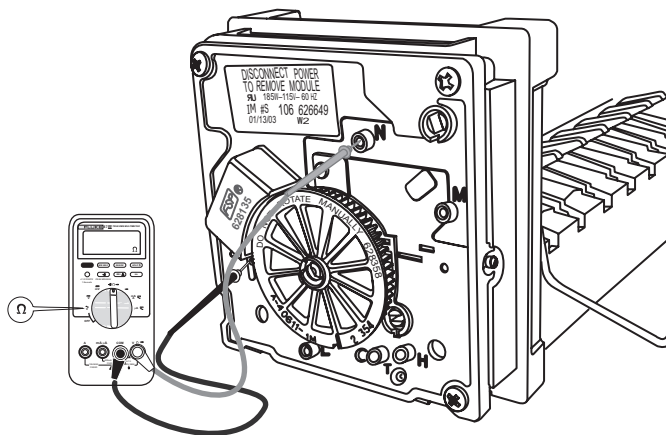

Figure 61. Checking solenoid resistance
3. Set multimeter to Ohm scale, then connect probes to test points V and N. See Figure 61. The test probe tips must be 1/2 inch long to make full contact with internal terminals.